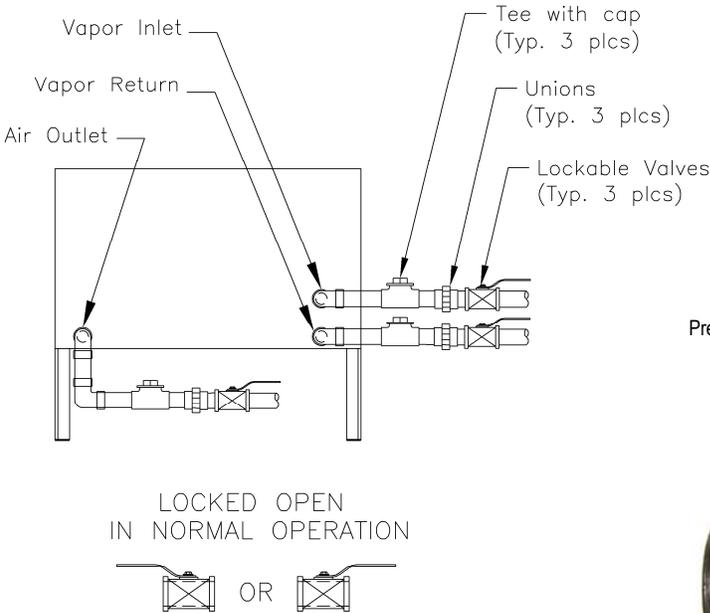

Figure 23: Processor Inlets & Outlets
- See Figure 23.
3. Close the ball valves between the *Processor* and the vents. See Figure 23.